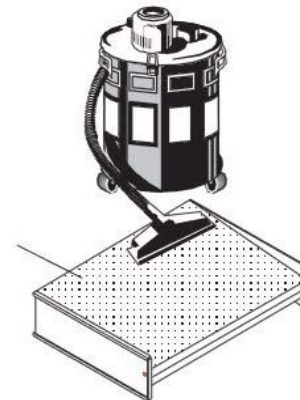

Figure 5-5-2
13. Optional - some dusting may occur on initial startup of the unit. To minimize this, vacuum or blow out the Modules (Refer to Figure 5-5-2).